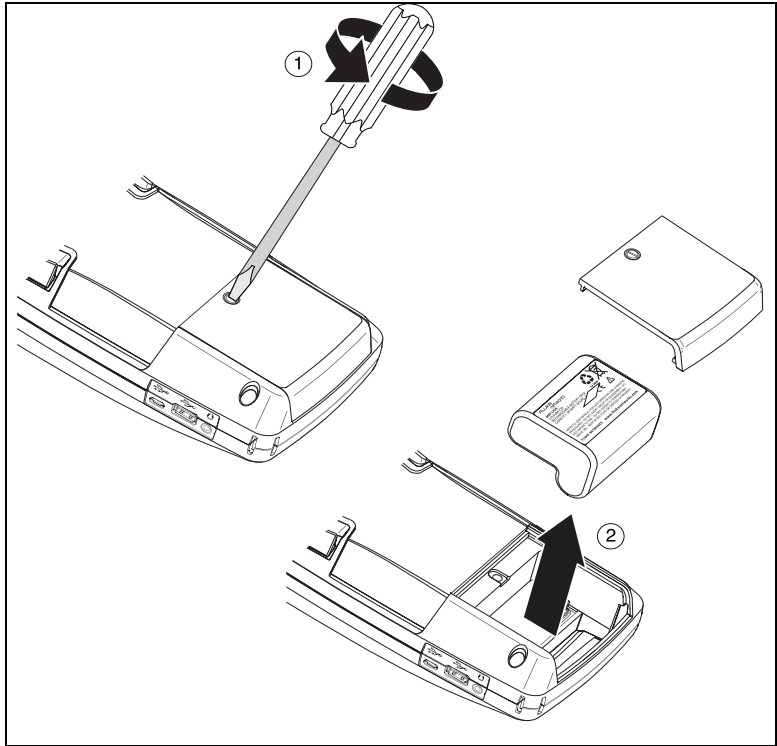

Figure 82. Remove and Install the Battery
- 3 Replace the battery as shown in Figure 82.